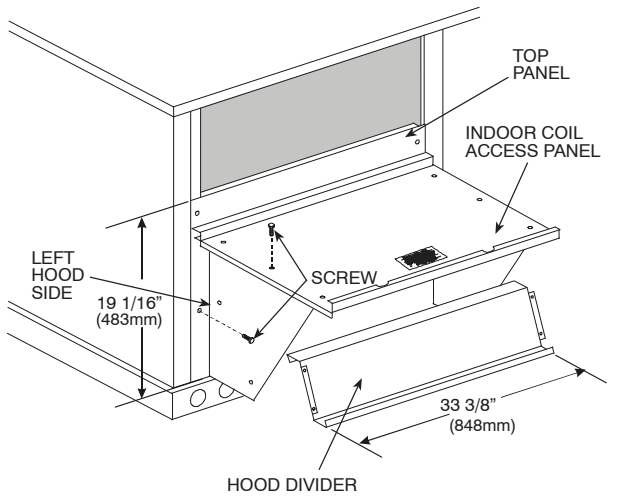

Fig. 12 - Economizer Hood Construction
2. Swing out indoor coil access panel and insert the hood sides under the panel (hood top). Use the screws provided to attach the hood sides to the hood top. Use screws provided to attach the hood sides to the unit. See Fig. 12.
4. Insert the hood divider between the hood sides. See Fig. 12 and 13. Secure hood divider with 2 screws on each hood side. The hood divider is also used as the bottom filter rack for the aluminum filter.